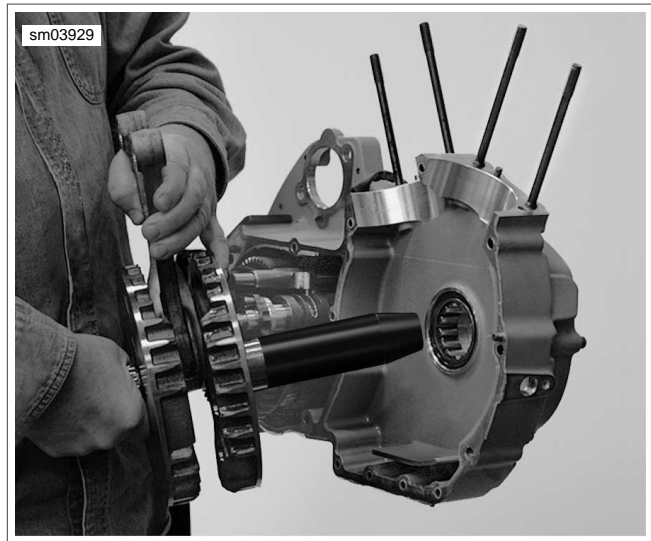

Figure 3-137. Installing Flywheel Assembly with CRANKSHAFT GUIDE
4. See Figure 3-137. Attach left crankcase half to engine stand.